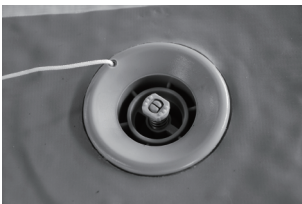

Fig.6
f. Inflate left and right tube of the boat firstly and then inflate bow section of the boat. Finally, inflate the keel. Use hand pump to finish. (Fig.6)